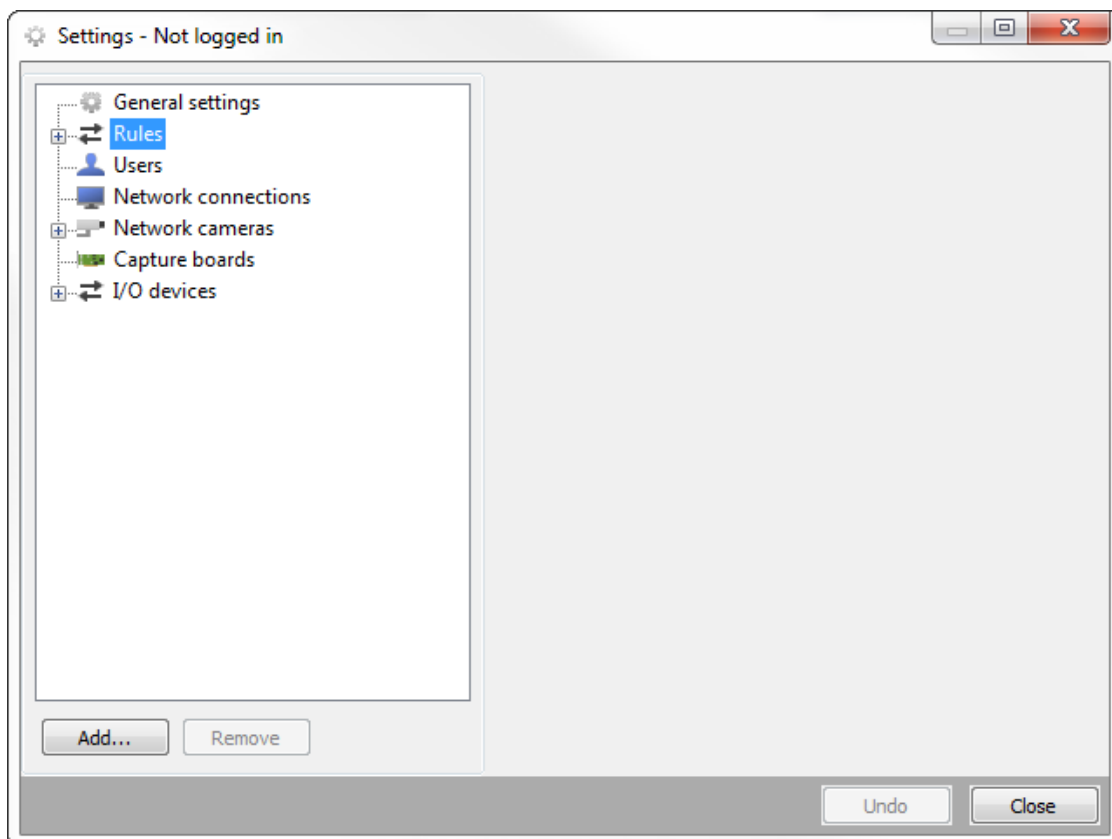

Figure 5.10: Rules.
- Click “Rules” and click “Add” button (Figure 5.10).